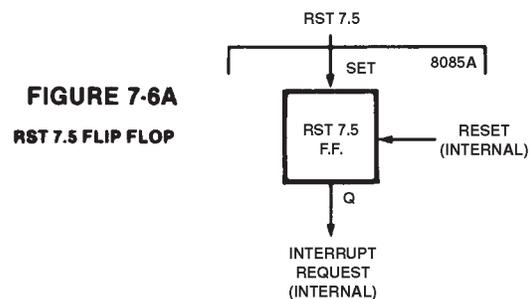

FIGURE 7-6A
- The 8085A responds to the interrupt, and sends an internal reset signal to the RST 7.5 flip-flop. (See Figure 7-6A).